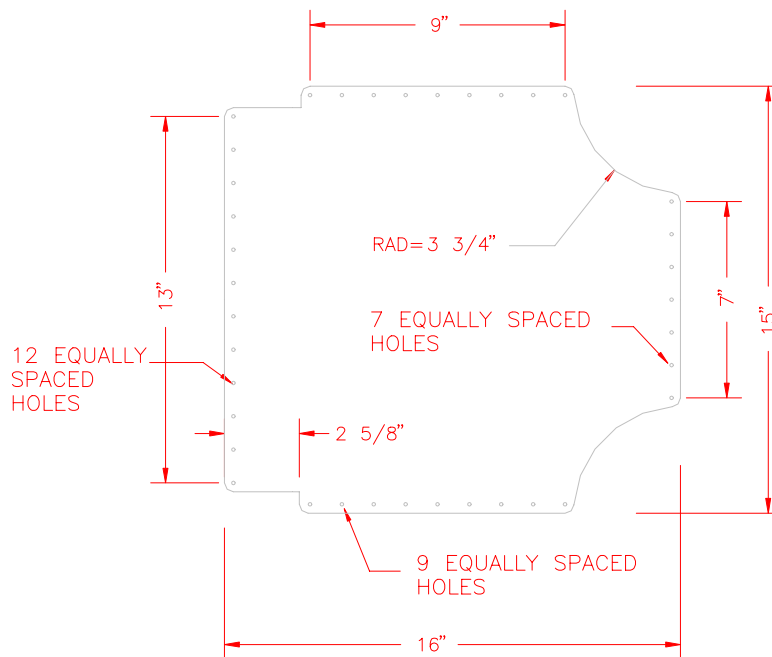

Figure 22.1.3
3) Trim two SA-28's to make bottom seat panels (SA-29) as in figure 22.1.3. Layout and drill #30 holes around the edges.